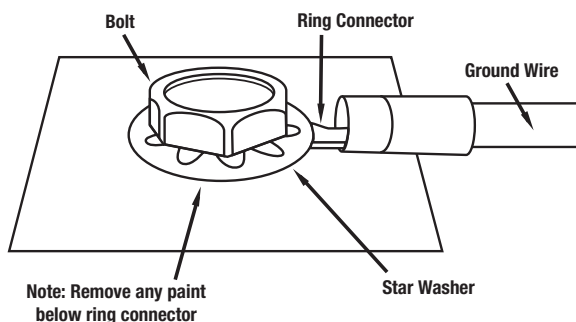

Fig.3
**GND** GND Connect the ground wire to the nearest bare-metal surface on the vehicle. Keep the length of the ground cable to an absolute minimum using a spade terminal at the amplifier end and a ring terminal as shown in below at the chassis end (Fig 3).